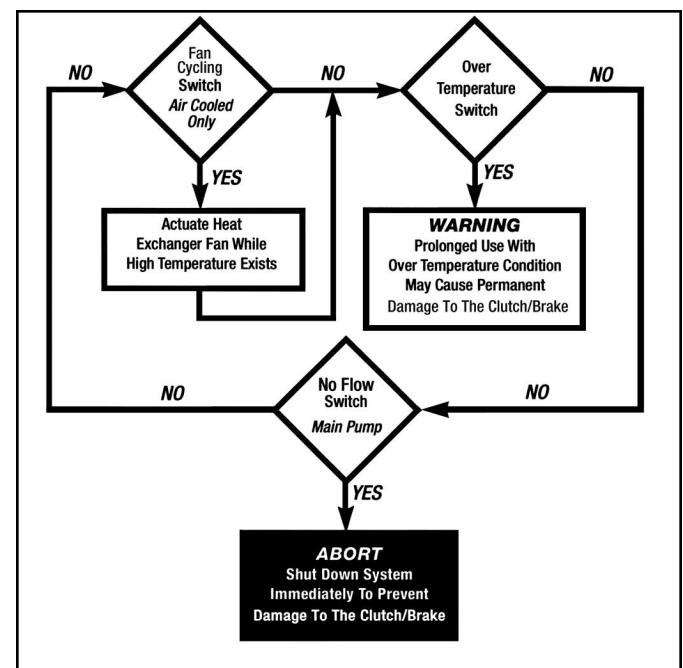

Figure 2 - Recommended System Interlock/Switch Handling
A. Recommended System Interlock/Switch Handling (See Figure 2)